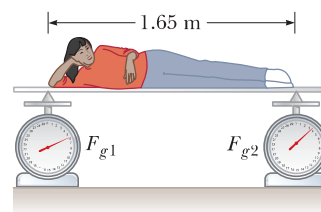

Figure P12.39
39. In exercise physiology studies, it is sometimes important to determine the location of a person's center of mass. This determination can be done with the arrangement shown in Figure P12.39. A light plank rests on two scales, which read $F_{g1} = 380 \text{ N}$ and $F_{g2} = 320 \text{ N}$. A distance of 1.65 m separates the scales. How far from the woman's feet is her center of mass?